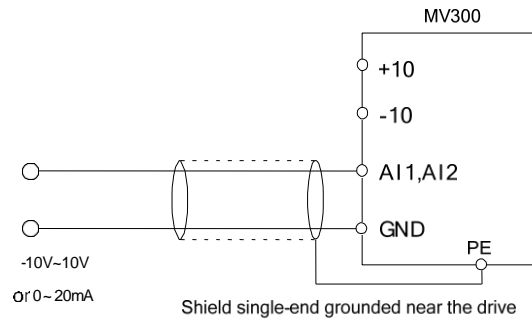

Fig. 3-6 Wiring diagram for AI1 and AI2 terminals
1) When AI1 and AI2 terminals receive the single-end analog voltage or current input, with the voltage/current input selected via function code P10.00, the wiring mode is as shown in Fig. 3-6.